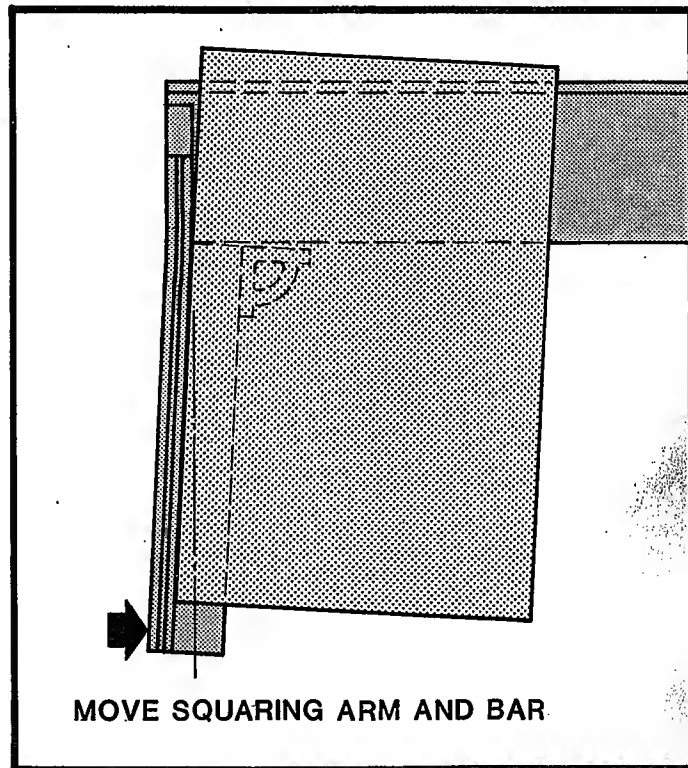

FIGURE 94
- B. Sheet lays on table and against the squaring arm bar as shown in Figure 94.
Use the procedure outlined under "A", except that the initial movement of the squaring arm is to the right as shown in Figure 94.